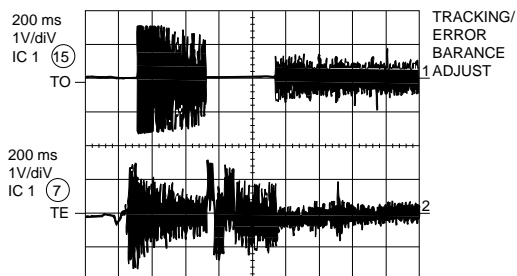

Figure 12-4
3. E/F balance (tracking error balance) (Fig.12-4)